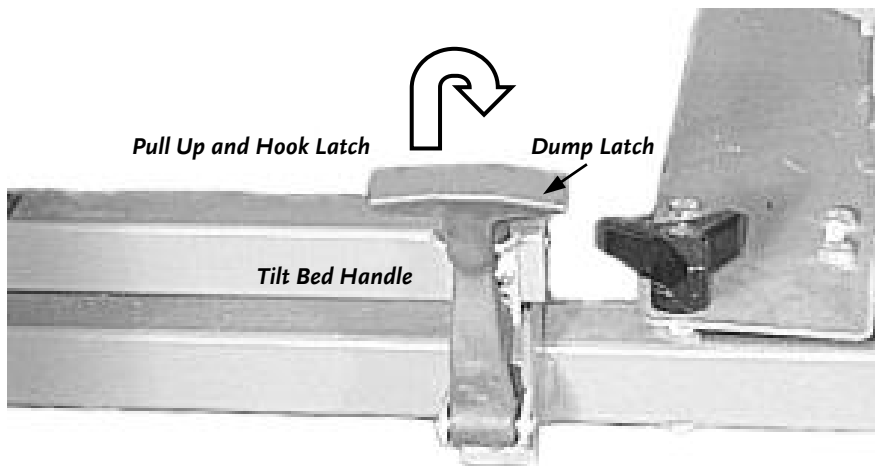

Figure 21
2. Make sure to secure the Collector Box Tilt Bed down by the Latch (**Figure 21**), and the Collector Box Inlet Hose is latched in place (**Figure 11** on page 18).